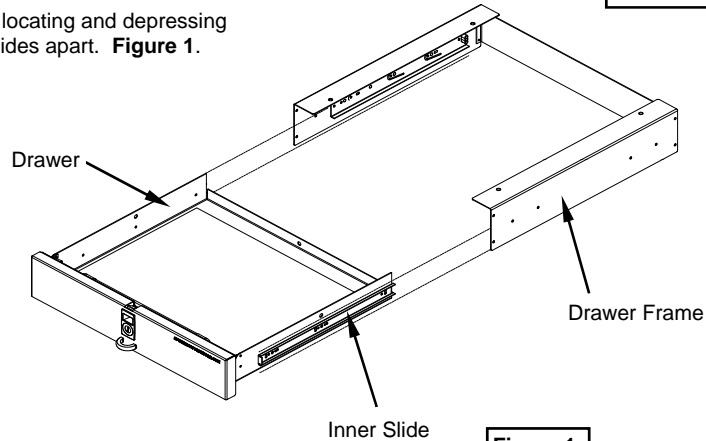

Figure 1
A. Disassemble the Outer Slides from the Inner Slides by locating and depressing the black, plastic levers while pulling the Drawer and Slides apart. **Figure 1.**